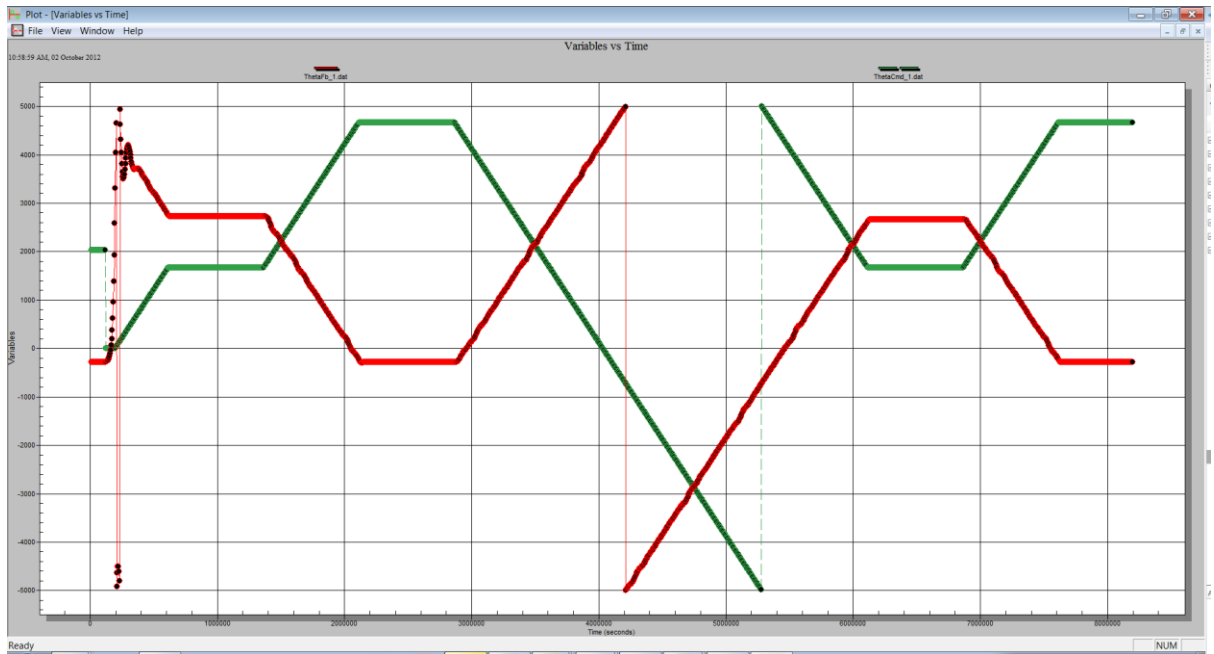

Figure 10-9 ThetaFb moves in opposite direction to ThetaCmd. Likely cause: incorrect motor phase sequence or inverted encoder feedback.
- Incorrect phase sequence (see Figure 10-9)